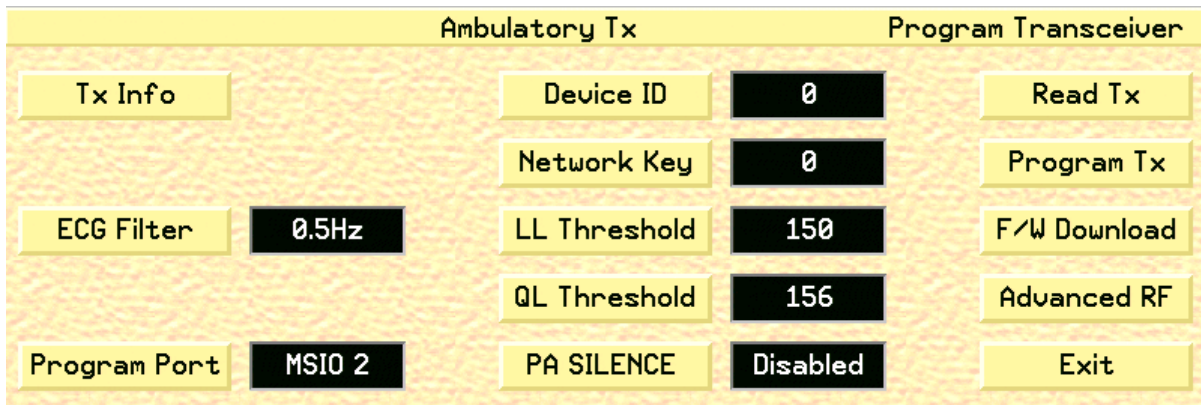

Fig. 77. Ambulatory Transceiver Programming screen
2. Click the **Program AT** button to open the Ambulatory Transceiver Programming screen (fig. 77).